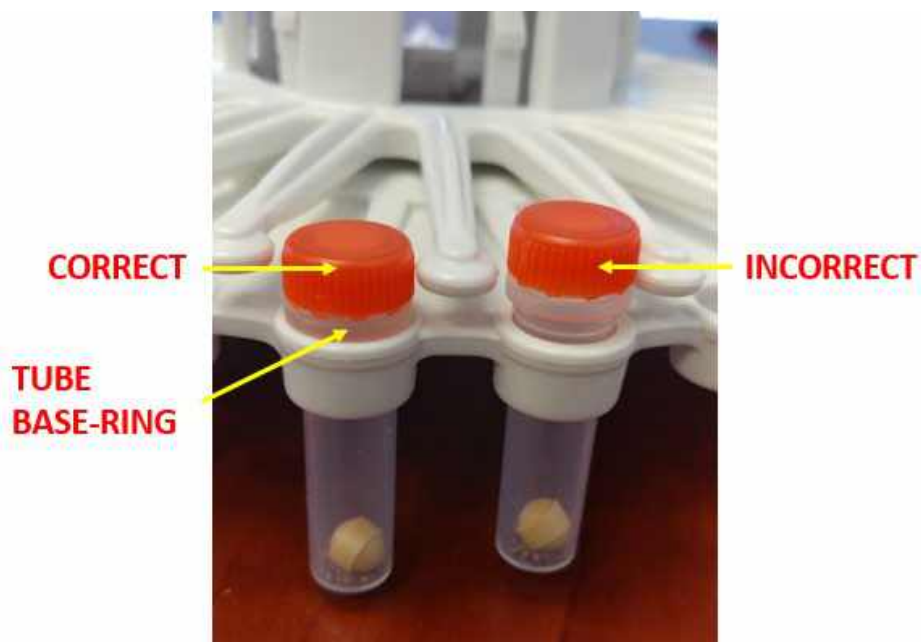

Figure IV-3.1: Tube Loading
9. Load the sample tubes into the holes of the 'Tube Deck', and press so that they seat snugly and the 'Tube Base-Ring' contacts the 'Tube Deck' surface (Figure IV-3.1). For less than full loads, tubes must be balanced symmetrically.